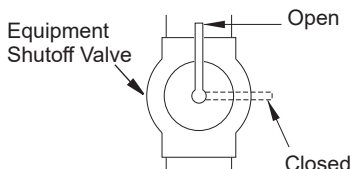

Figure 13 - Equipment Shutoff Valve
1. Close equipment shutoff valve (see Figure 13).
for propane (see Figure 13 or 14). Apply a noncorrosive leak detection fluid to all joints. Bubbles forming show a leak.
1. Open equipment shutoff valve (see Figure 13).